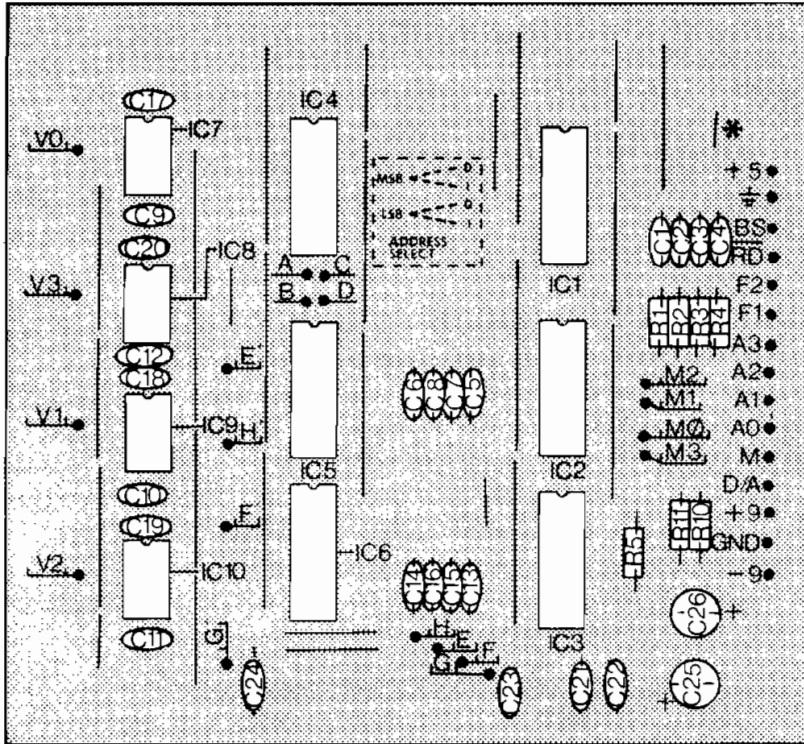

Figure 1
- () Using the bare wire provided, form and install 27 jumpers as indicated by the solid lines in figure 1 and printed on the circuit board. When finished, count the jumpers to verify that 27 have been installed. Note that this number does not include the jumpers which will be installed within the dashed box labeled "address select". These jumpers will be installed later.
Solder each of the fixed resistors in place following the parts placement designators printed on the circuit board and the assembly drawing figure 1. Note that the fixed resistors are non-polarized and may be mounted with either of their two leads in either of the holes provided. Cinch the resistors in place prior to soldering by putting their leads through the holes and pushing them firmly against the board. On the conductor side of the board bend the leads outward to about a 45° angle. Clip off each lead flush with the solder joint as the joint is made.